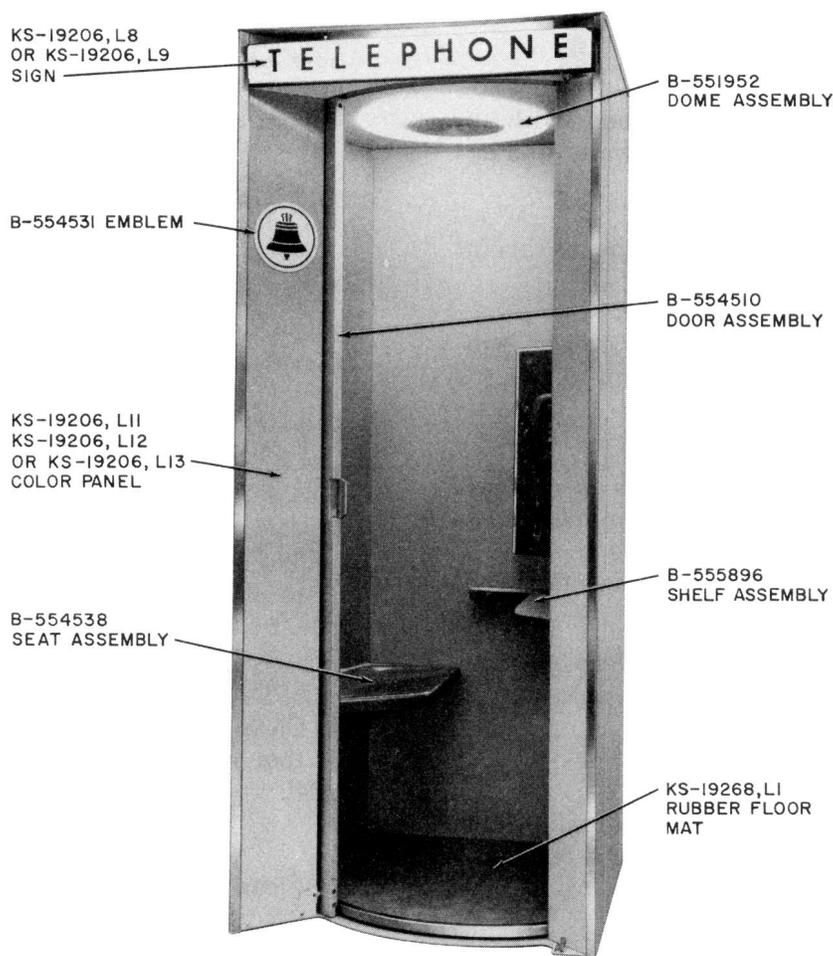

Fig. 1 — KS-19206 Telephone Booth
1.01 This section describes the maintenance of the KS-19206 booth and booth components (Fig. 1).
10.01 The panels are available in three colors (Fig. 1) as follows:
- 12.01 To replace Bell System emblem (Fig. 1), remove the colored panel as outlined in 10.02.